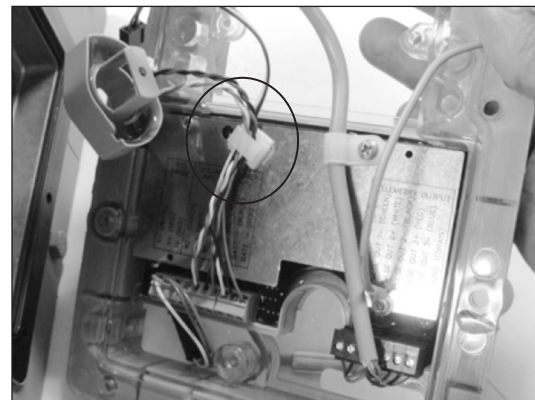

Figure 9.16 Example - Wiegand wires placed inside holder
3. On the back of the new index, be sure the Wiegand wires are placed inside the white holder as shown in Figure 9.16 Example.